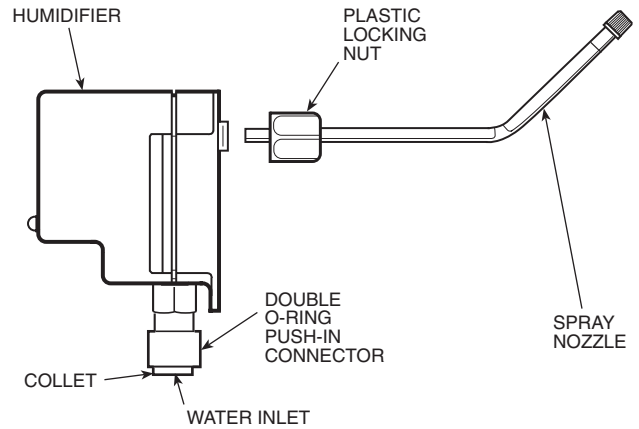

Fig. 3 — Spray Nozzle Installation
6. Slide plastic locking nut over end of spray nozzle. Push metal end of spray nozzle into back of humidifier nozzle connection. Tighten locking nut onto nozzle connection, locking spray nozzle to humidifier. Turn locking nut to finger tight, then tighten an additional 1/4 turn with pliers or a wrench. Do not overtighten. Overtightening fittings will cause them to crack and split, which will create water leaks. See Fig. 3.